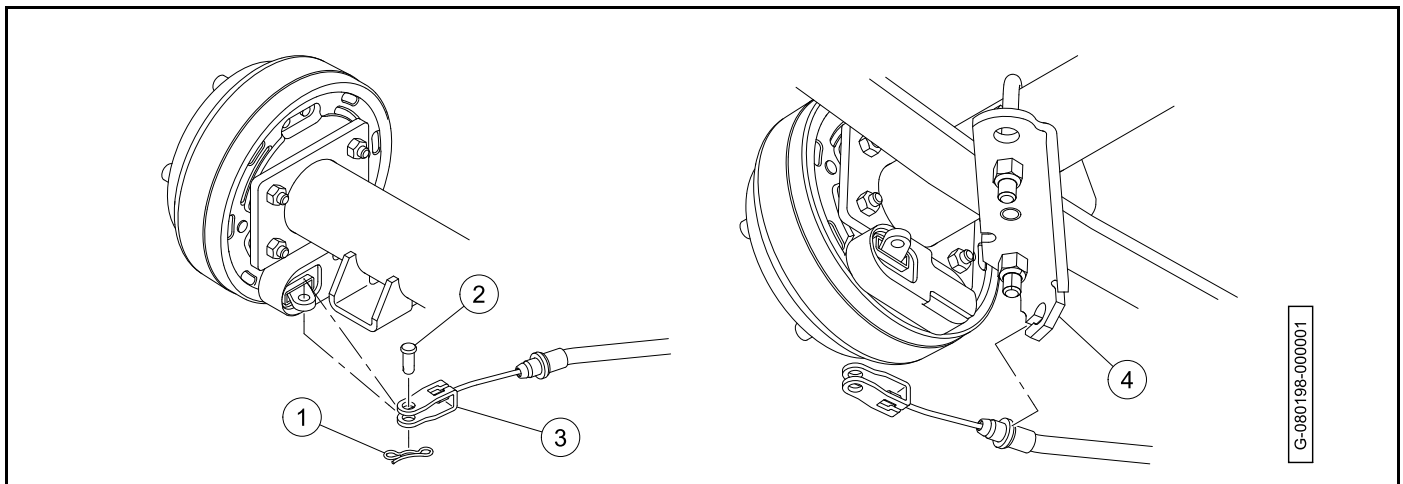

Figure 9-5
6. Remove the bow tie locking pin (1) and the clevis pin (2) (Figure 9-5).